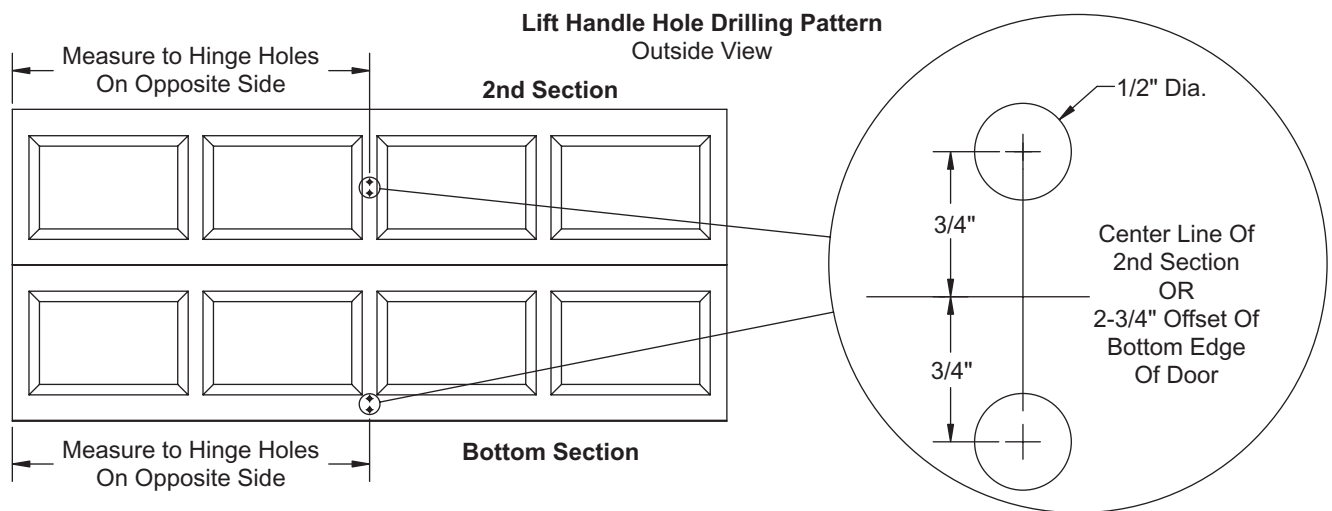

FIG. 8-C
If you have a 2" thick door, no modifications to the lift handle are necessary. If you have a 1-3/8" thick door, cut the stems on the lift handle along the ridge line using a hacksaw (Fig. 8-A).
From the front side of the section, drill (2) 1/2" holes through the section according to the Bottom Section Hole Pattern (FIG. 8-C). A T-Square should be used to ensure that they are vertically in line. If your door has an outside keyed lock, the hole pattern should be drilled on the bottom section directly below the lock. If your door does not have an outside keyed lock, the hole pattern should be drilled directly below the hinge closest to the horizontal center of the door. Install the lift handle & inside step plate assembly using (2) #14 x 5/8" sheet metal screws (Fig. 8-B).
From the front side of the section, drill (2) 1/2" holes through the section according to the 2nd Section Hole Pattern (FIG. 8-C). A T-Square should be used to ensure that they are vertically in line. The hole pattern should be drilled directly above the hinge closest to the horizontal center of the door.